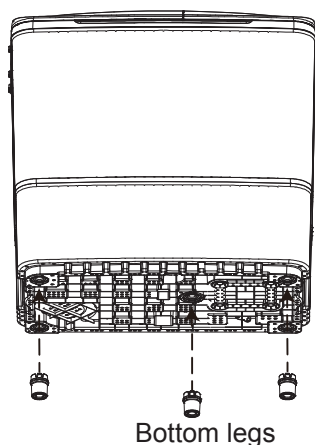

Figure 1
- 1.Carefully tilt the washing machine to the back and install the bottom legs at the front of the base.Make sure that the legs are installed in place.(Figure 1).